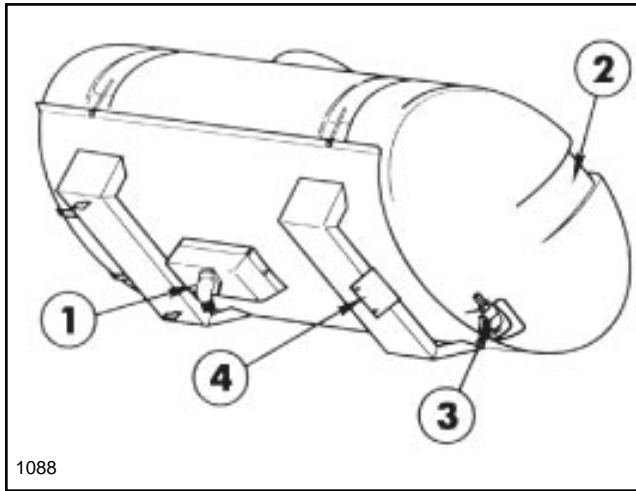

FIG. 7
**NOTE:** Position the barbed elbow as shown in FIG. 7, so that it will angle toward the left front of the Vehicle after the Tank is installed on the Vehicle.